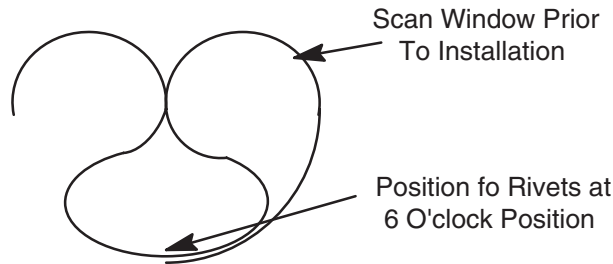
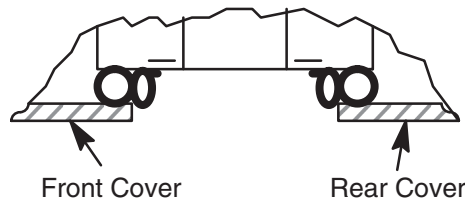

Figure 11-15 Install Scan Window
Figure 11-16 Scan Window Nested Between Front and Rear Cover
- 2.) Deform the scan window, as shown in Figure 11-15, and nest the scan window at the bottom of the opening between the front and rear covers, (Figure 11-16) with the rivets in the 6 o'clock position.